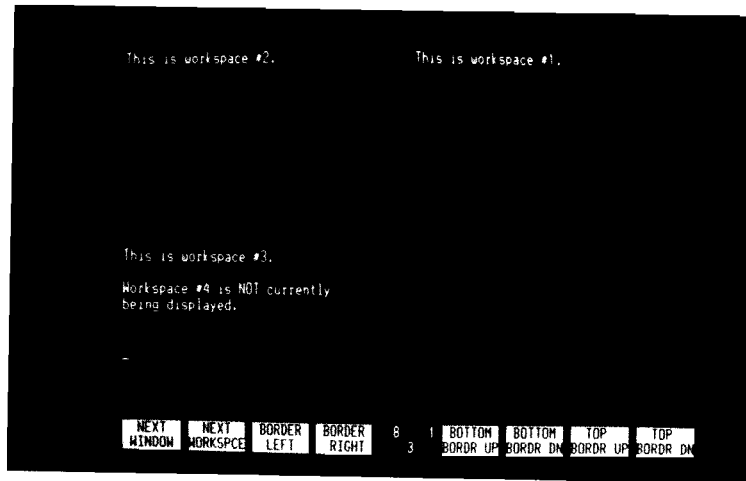

Figure 6-4. Display Screen Divided into Three Windows
4. Type the identity of workspace 1 into window 1 as shown in figure 6-4. If the window does not respond to the keyboard, do the following steps:
6. Type the identity of workspaces 2 and 3 into windows 2 and 3 as shown in figure 6-4. The cursor can be moved from one window to the next with the **NEXT WINDOW** function key. If the window does not respond to the keyboard, perform steps 4a and 4b to remove the workspace from Remote mode.